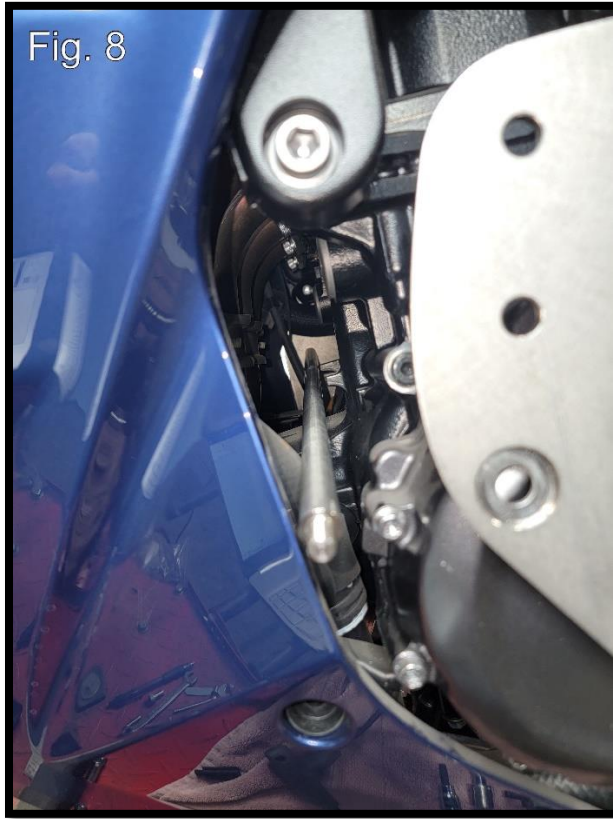

Fig. 9
- 4) For this step, you'll need the following: Clutch Side Main Bracket you attached the Foot Peg to, Lower Spacer, (2) 12mm spacers, (2) 60mm Flange Bolts, 70mm Button Head Bolt. On the Clutch Side, remove the bolts indicated in **Fig. 7.** The upper bolt will need an 8mm Hex Wrench and the lower a 5mm Hex Wrench. You won't reuse these bolts. **Don't remove both upper bolts at the same time.** Put the 60mm Flange bolt through the hole in the Main Bracket and then the 12mm spacer on the other side and slide into the hole you just took the bolt out of. Slide the long rod through this side into the hole in the Clutch Main Bracket. **Fig. 8.** Now you can remove the other upper bolt. Put the 60mm Flange Bolt through the hole, then the 12mm spacer. Lift up on the Main Bracket so you can put the rod end through the hole in the Main Bracket and get the Flange bolt into its hole. Thread in the Flange bolt a few threads. Put the lower spacer into the hole you removed the bolt from Male End first followed by the 70mm button head bolt. Tighten all the bolts. **Fig. 9** shows this step completed. Do not put nuts on the Rod yet.